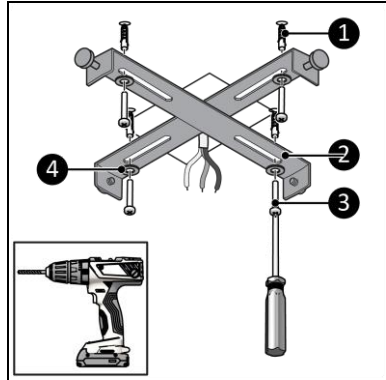

Figure 4
4. Place the plugs in the four holes (Figure 4, pos. 1).
5. Use the Philips screws (Figure 4, pos. 3) and the rings (Figure 4, pos. 4) to attach the suspension bracket (Figure 4, pos. 2) to the ceiling.